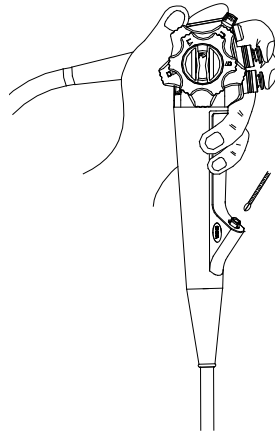

Figure 4.6
- (1) Open the protective rubber cap of the instrument channel port on the grip section of the fiber gastrointestinal endoscope;
- (2) Close the biopsy forceps tightly and insert them in the instrument channel port slowly; (Figure 4.6)
- (3) Hold the biopsy forceps while keeping the distance between the instrument channel port and your hand is 30mm, when 5mm of the head of the biopsy forceps stretches out the distal end, the biopsy forceps will enter into the FOV;
- (4) When observing an objective within field of vision, align the biopsy forceps with the desired objective, open the small bowl of the biopsy forceps to catch the objective;
- (5) After catching any living tissue or foreign matter, closing the biopsy forceps tightly and pull out them of the biopsy mouth;
- (6) If a foreign matter doesn't pass the biopsy channel due to its large size; withdraw the fiber gastrointestinal endoscope and the biopsy forceps from the mouth of the patient;
- (7) After withdrawing the biopsy forceps or other instruments, cover the protective rubber cap of the instrument channel port.